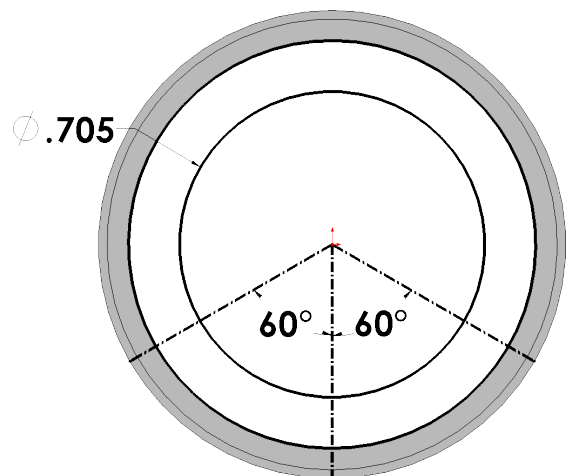
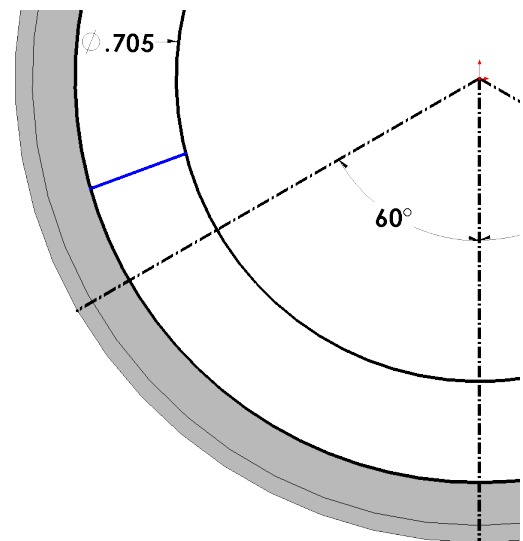

Fig. 15
Fig. 16
Step 9. Click **Smart Dimension**  (S) on the Sketch toolbar.
Step 10. Add dimensions, **Fig. 15**.
Step 11. Click **Line**  (L) on the Sketch toolbar.
Step 12. Sketch line between converted circle and circle sort of parallel with left angled radius centerline, **Fig. 16**.